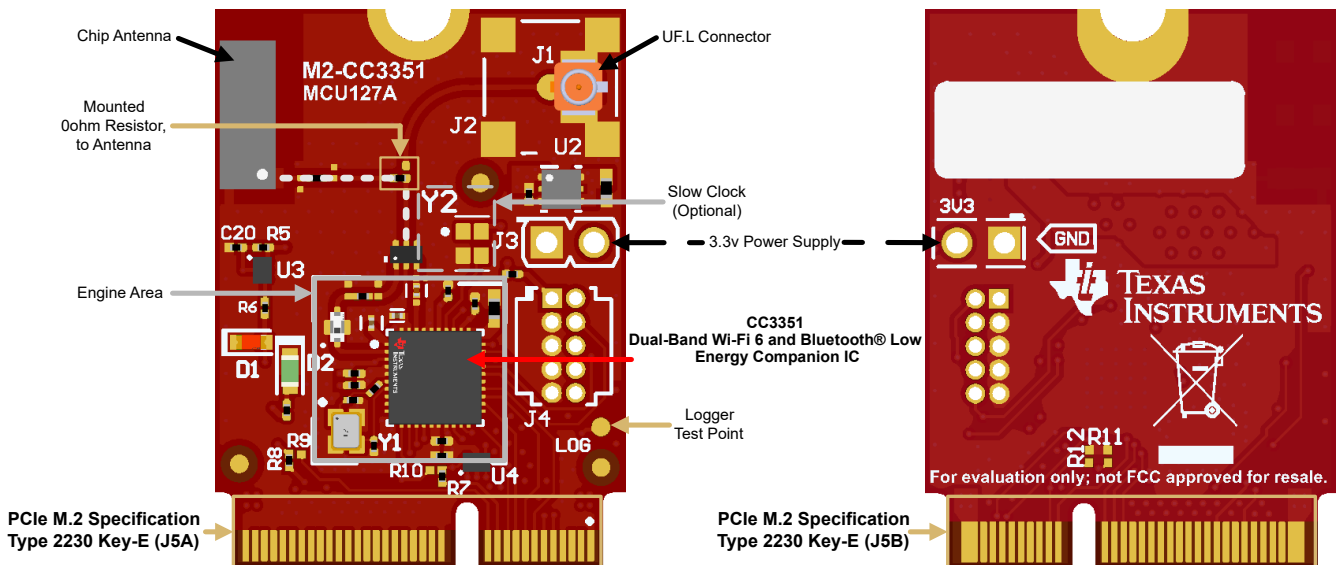
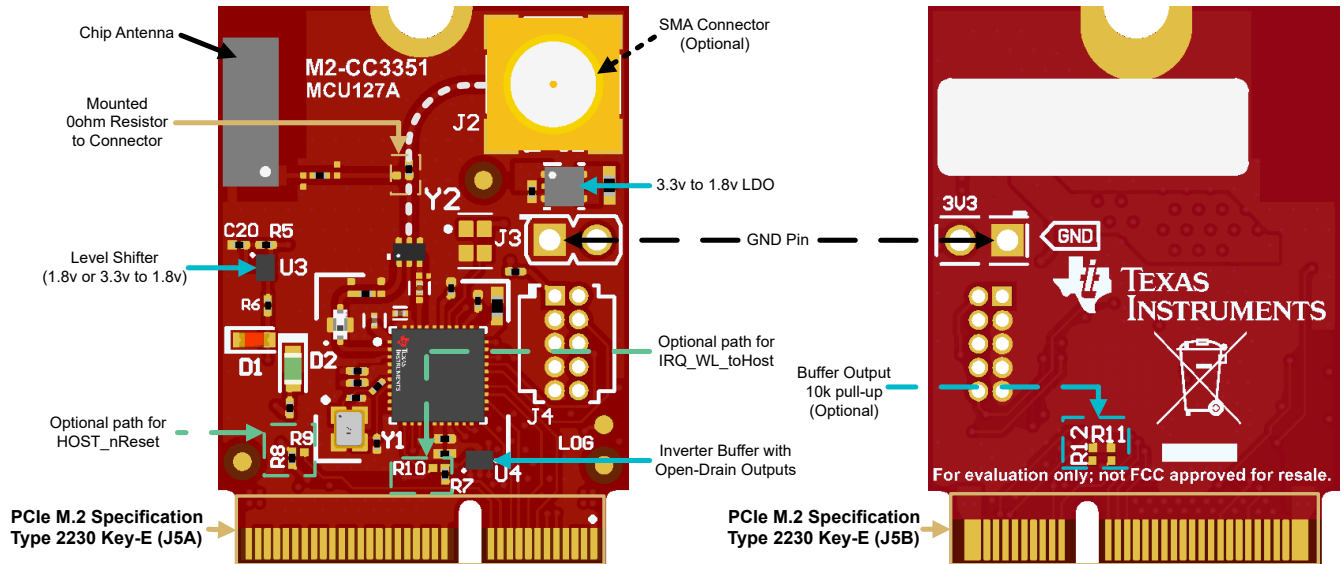

Figure 2-1. M2-CC3351 Features
Figure 2-2. M2-CC3351 More Features
- The mounted 0 Ohm resistor can be swapped to a different position to do conducted testing with the connector on board (J1/J2); the default configuration allows use of the onboard chip antenna (refer to Figure 2-1). Alternatively, there is footprint for an SMA connector (J2) onboard to replace the onboard UFL connector (J1) for performing conducted testing measurements with a compatible coaxial cable (refer to Figure 2-2).